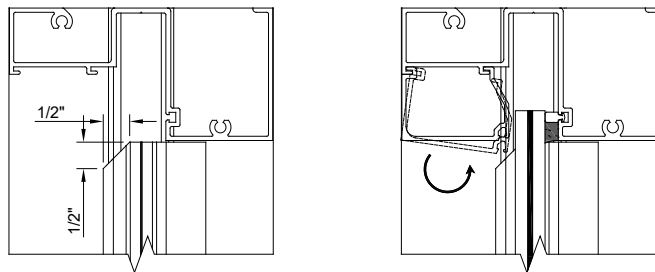

Figure 31: Special Fabrication at Vertical Transom Sashes
Note: When a transom head requiring a glass stop is used (**FG-5710** for FG-5700 and **FG-5760** for FG-5750/5750T), the vertical transom sashes require special fabrication at the top front corner to allow clearance for horizontal glass stop installation. A 1/2" x 1/2" 45 degree cut will be sufficient. This may be performed in the shop or in the field, so long as it is done before installing sash. Note that the sash stops do not require this prep. Reference Figure 31.
- 11.4 Apply a thin bead of silicone weather sealant to the joint, taking care not to leave any voids or air bubbles. Immediately tool, creating a smooth and finished joint, Figure 31.